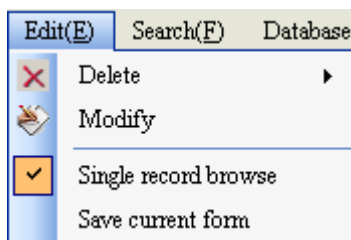

Fig.5-3
5.2.2 Edit (main menu) as shown in Fig.5-3: